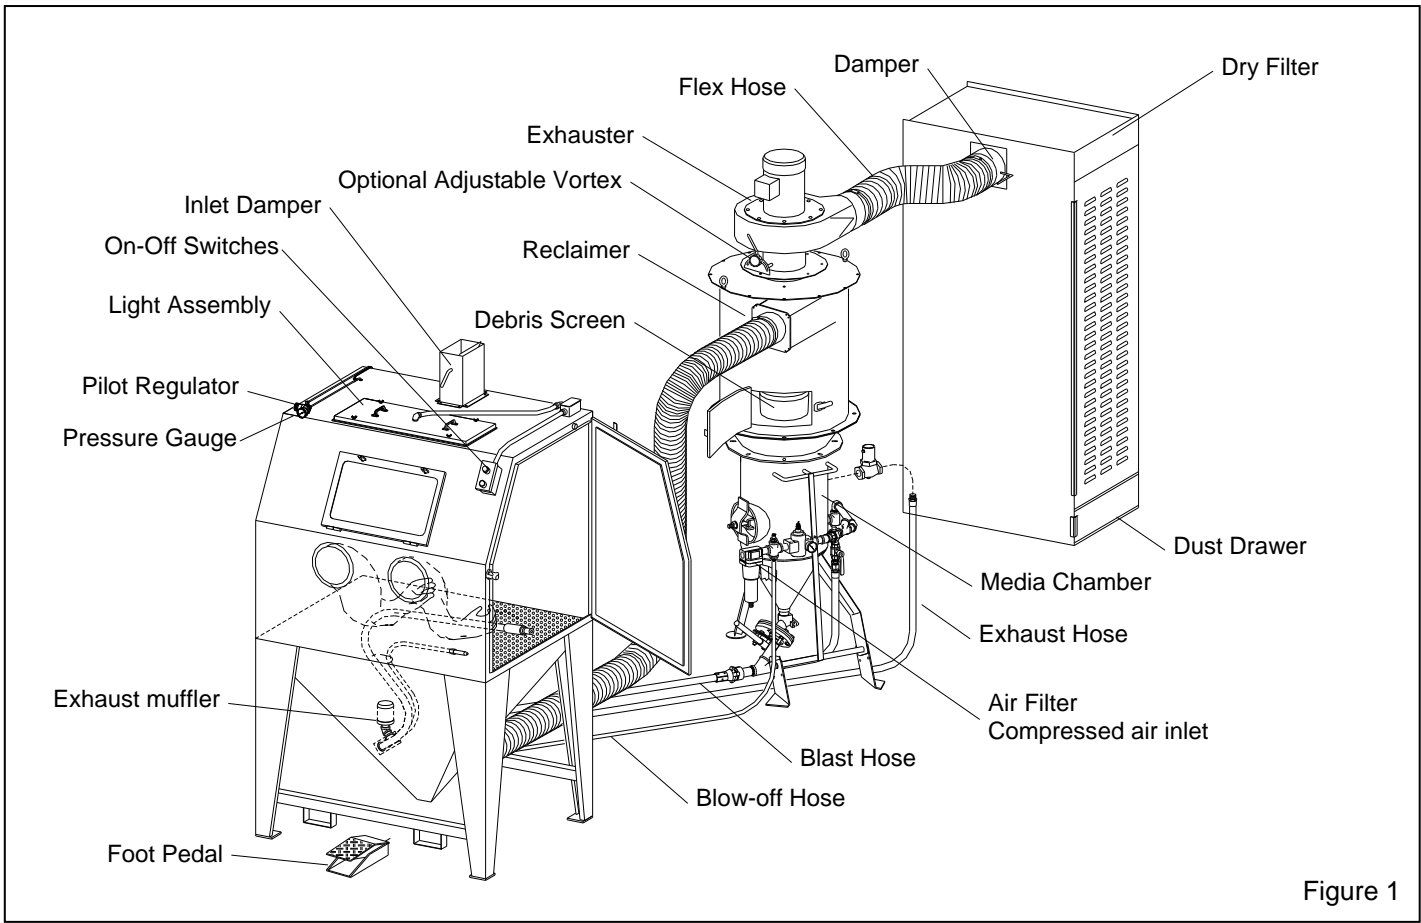
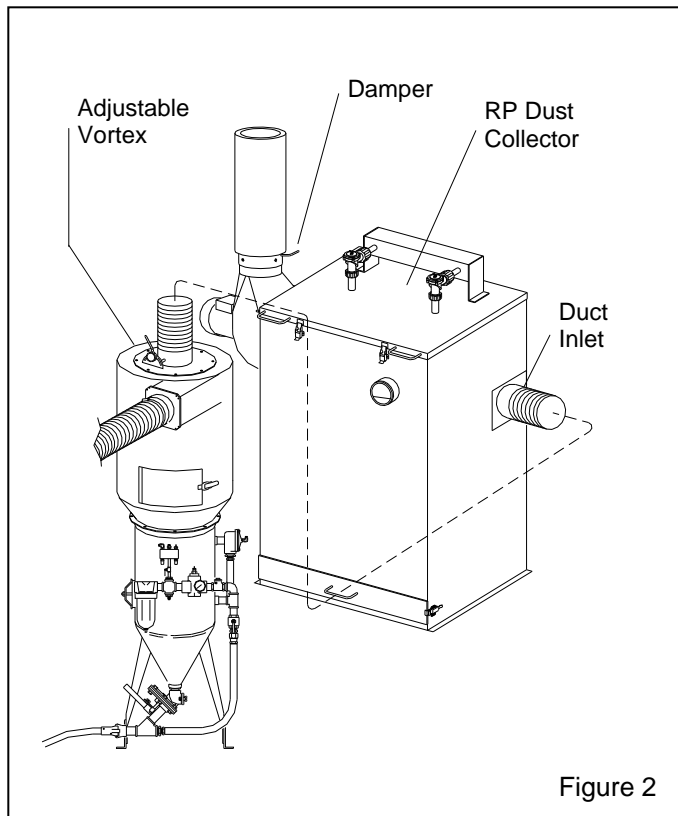
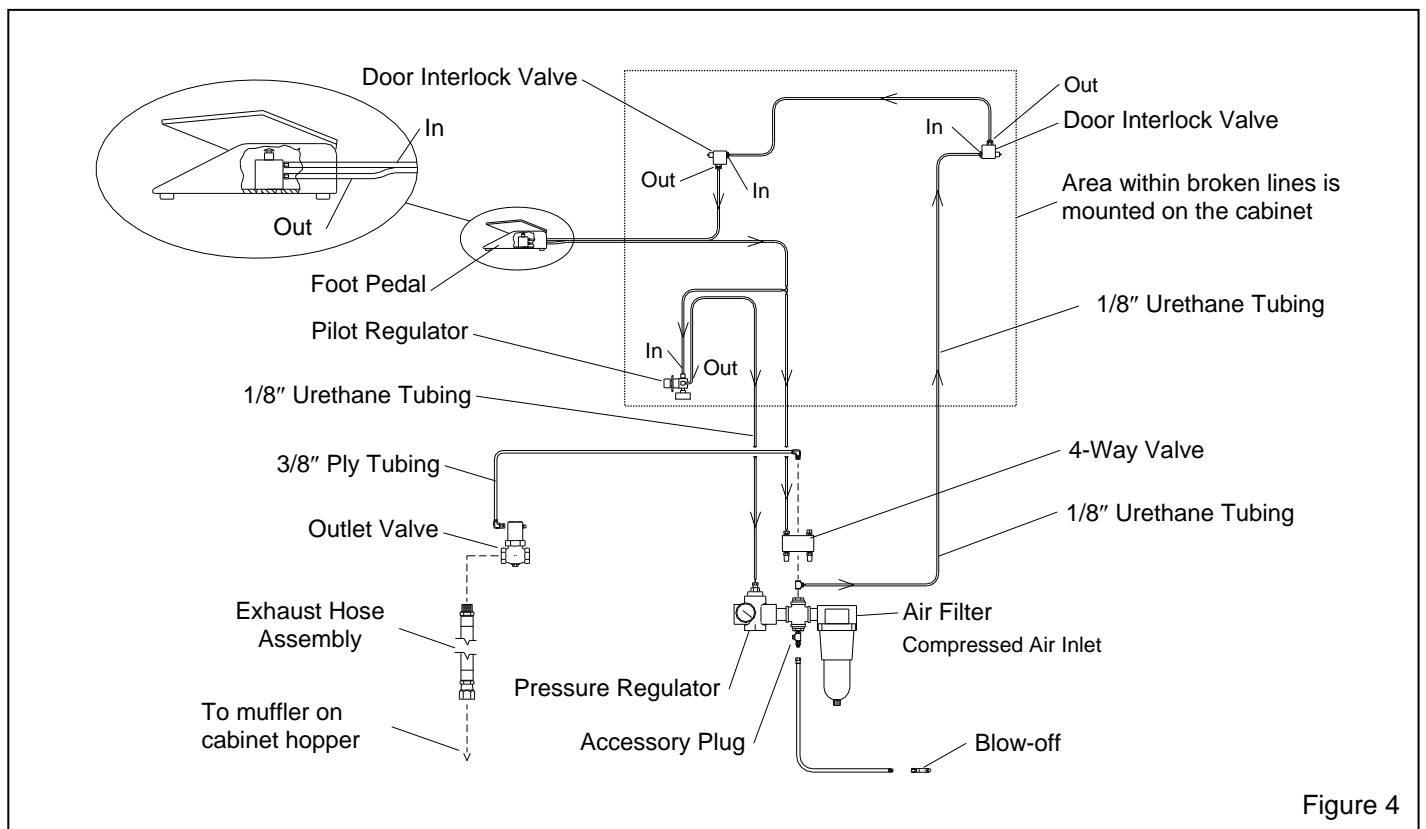

Figure 1
Figure 2
Figure 4
See Figure 1 for arrangement of components with a dry filter. Figure 2 shows the arrangement with a reverse-pulse dust collector.
2.1.1 See Figure 1 (and Figure 2 for optional reverse-pulse collector) for the general arrangement and Figure 4 for the control line schematic. Select a location where compressed air and electrical service are available. The cabinet location must comply with OSHA and local safety codes. Allow for full access to all doors and service areas, and for efficient handling of large parts. Provide enough clearance in front of the dust collector to remove the dust drawer without tipping. Ideally, locate the media chamber directly behind the cabinet with the
2.5.1 Attach the 1/2" blow-off hose coming from the cabinet hopper, to the compatible fitting between the air filter and regulator. See the schematic in Figure 4.
pressure regulator, piping, and 4-way air valve. Check the schematic in Figure 4 to confirm the connections.